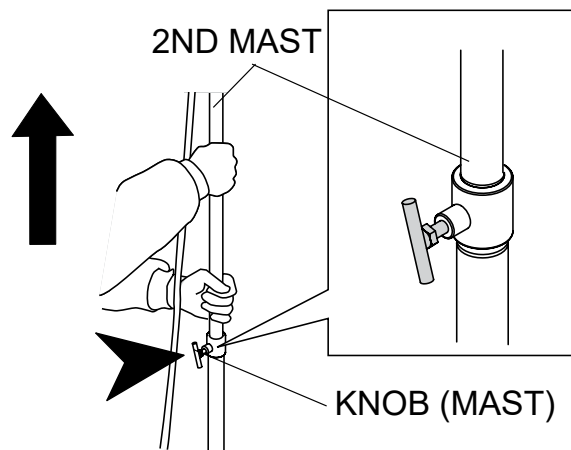

Figure 12. Extending the Second Mast
3. Loosen the mast knob and extend the second mast to the desired height (Figure 12).